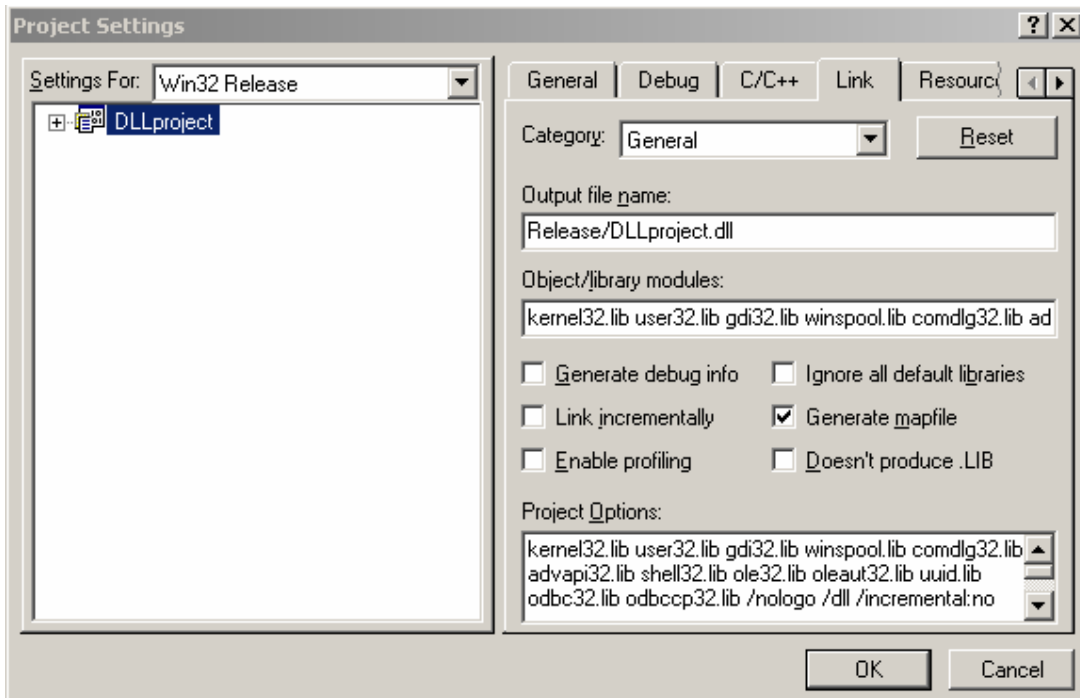

Figure 14: Selecting option to generate mapfile
23. Select the Link tab, select "General" from the pull-down menu labelled "Category". Check the box labelled "Generate mapfile" (figure 14). Then click OK.